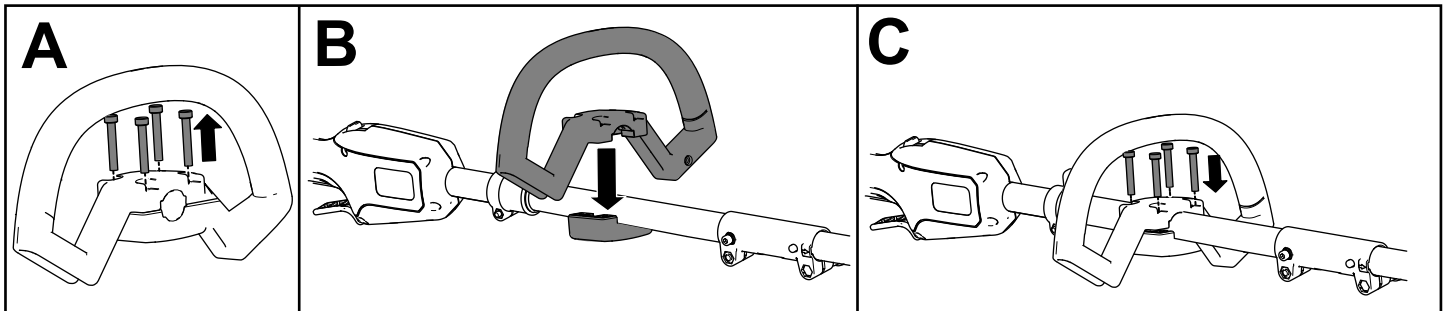

Figure 3
1. Separate the auxiliary handle from the handle plate by removing the 4 socket head screws using the provided Allen wrench (A of Figure 3).
2. Line up the auxiliary handle with auxiliary handle plate on the trimmer handle (B of Figure 3).
3. Secure the auxiliary handle to the handle plate with the 4 socket head screws previously removed (C of Figure 3).